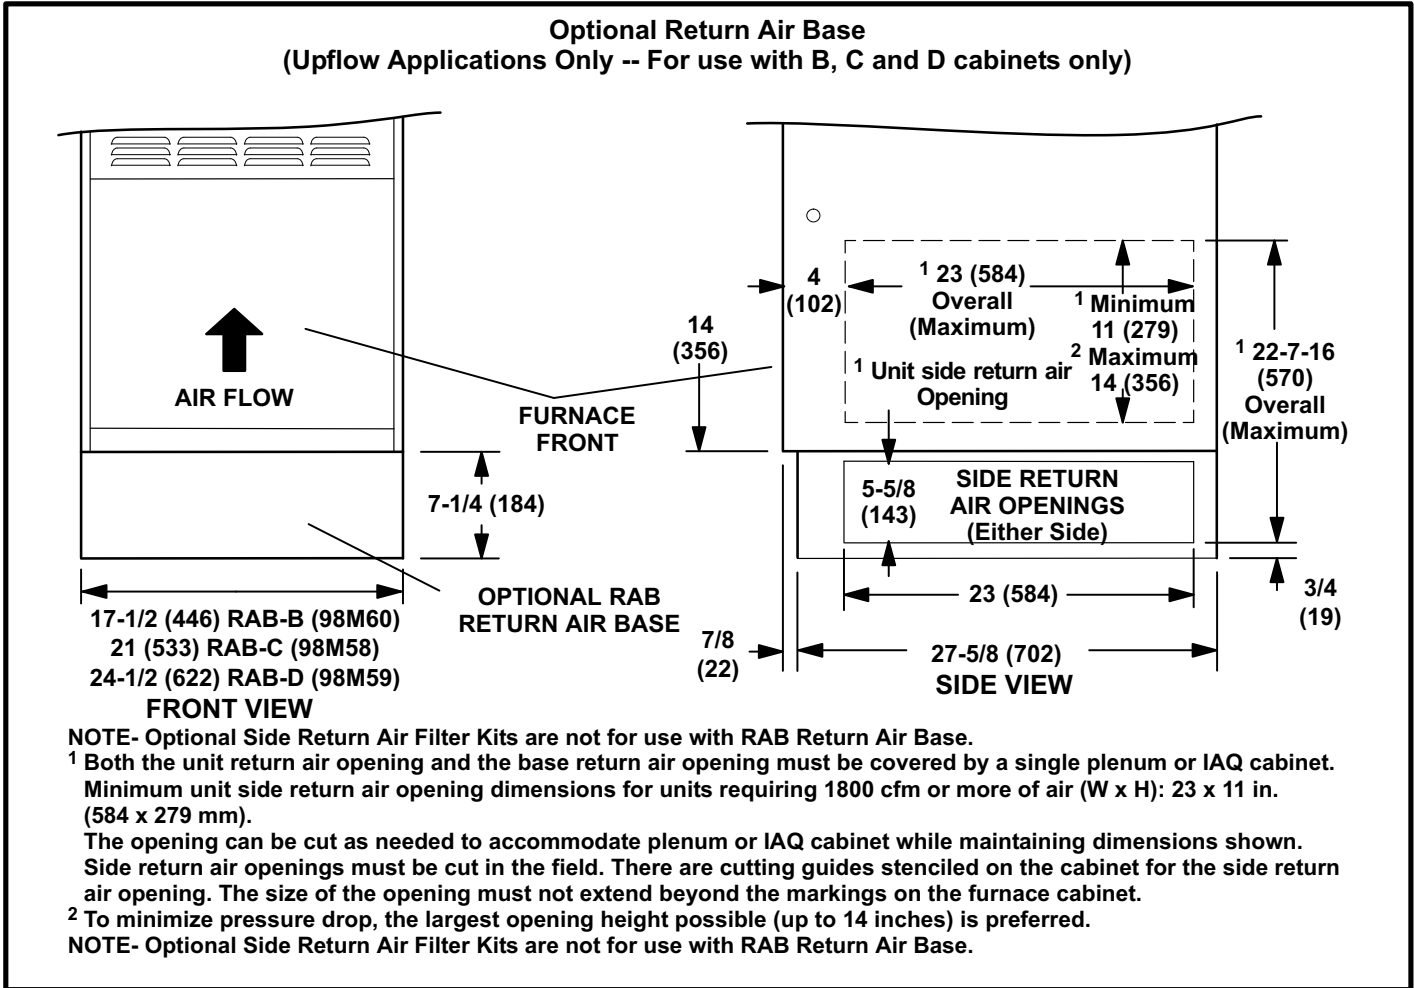

FIGURE 11
- 2 - Return air from single side with optional RAB Return Air Base. See figure 11.